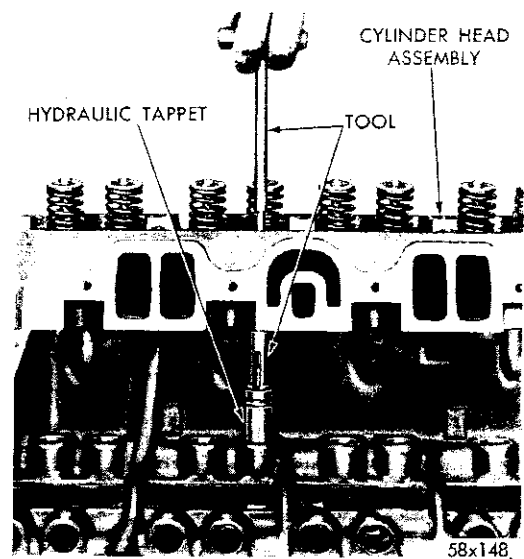

Fig. 17—Removing Tappet Using Tool C-3661
(1) The tappet can be removed without removing the intake manifold or the cylinder heads by following this recommended procedure: Remove the cylinder head covers.
(2) Remove the rocker arms and shaft assembly.
(3) Remove the push rods and place them in their respective holes in Tool C-3068.
(4) Slide the puller Tool C-3661 through the push rod opening in the cylinder head and seat the tool firmly in the head of the tappet.
(5) Pull the tappet out of the bore with a twisting motion, as shown in Figure 17.